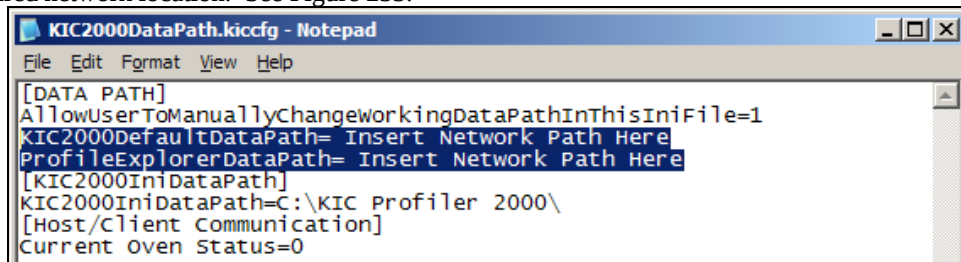

Figure 233
4. Change both the KIC2000DefaultDataPath= and ProfileExplorerDataPath= lines to the desired network location. See Figure 233.